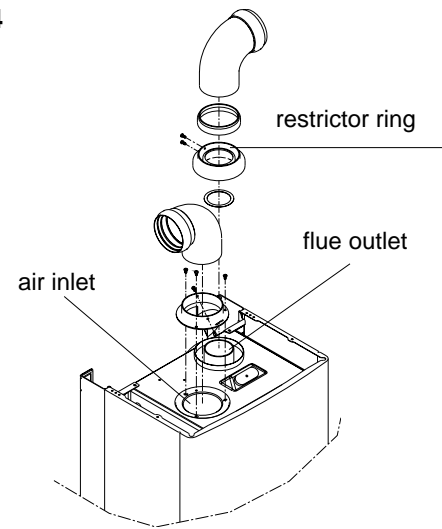

Fig. 10
4.5.3.1 INSTALLATION OF TWIN ADAPTOR KIT (fig. 10 & 10A)
- Insert the exhaust connection manifold (B) onto the appliance flue outlet and secure to the flue spigot using the screws provided.
- Remove the blanking plates (located to the left of the appliance flue outlet) and – using the same screws – install the air baffle (A).